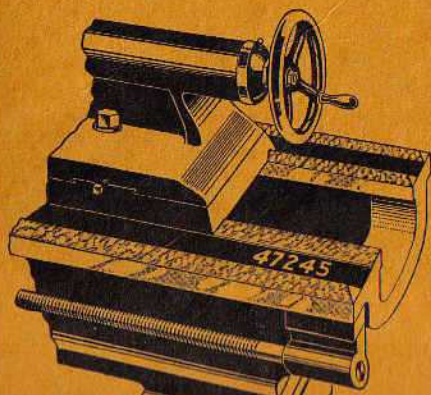

Fig. 1. Showing Location of Serial Number.
**2. Serial Number of Lathe.** The serial number of your lathe is stamped on the bed between the V-way and flat-way at the tailstock end (see Fig. 1.), and should be listed on your order. This number enables us to refer to our records which show the size, type and age of your lathe.